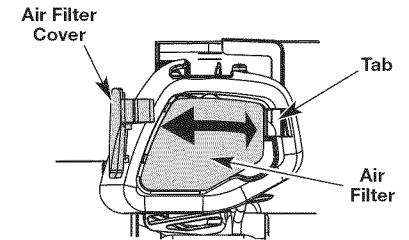

Fig. 14
1. Open the air filter cover by pressing the lock tab in and pulling out on the air filter cover (Fig. 14).
2. Remove the air filter (Fig. 14).
6. Replace the air filter into the base plate (Fig. 14).
7. Reinstall the air filter cover. Position the two small tabs on the air filter cover into the two slots in the base plate and press the air filter cover down, making sure to align the lock tab with the lock tab slot, until it snaps into place (Fig. 14).